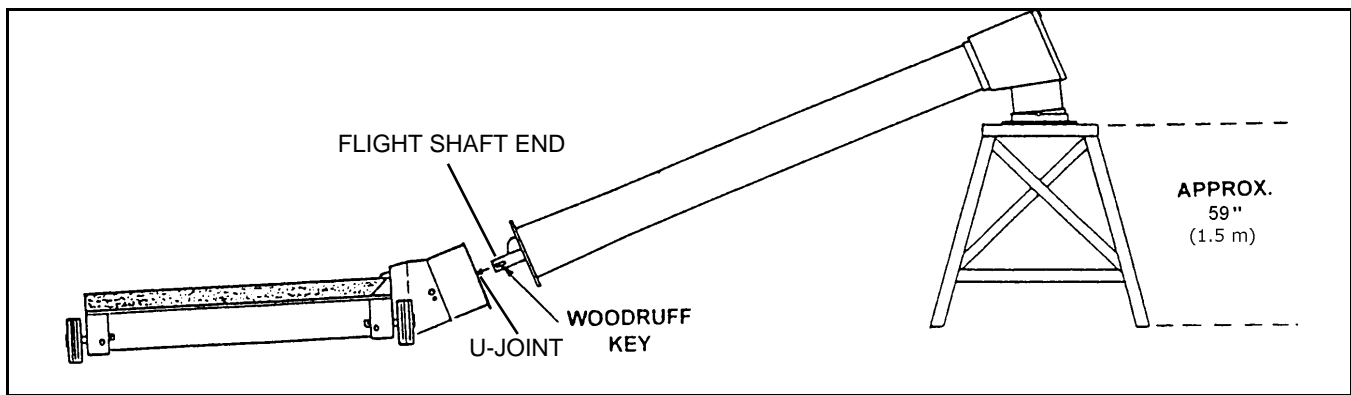

Figure 3.45
3. Clean dirt from inside u-joint on hopper and flight shaft end, then insert Woodruff key, see Figure 3.45.